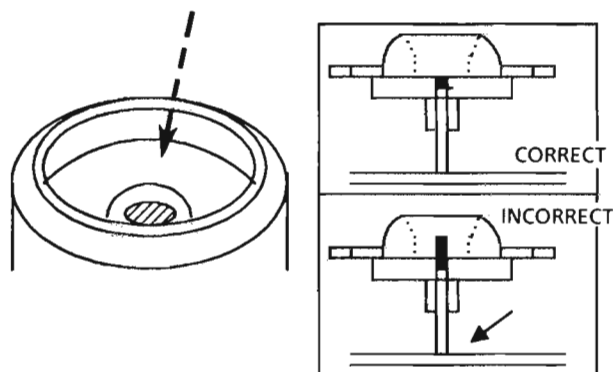

Fig. 53
- (34)** After inserting the turntable, bond the motor shaft and turntable together (at the section marked by an arrow in fig 53 on the left below).
Be extremely careful not to allow bonding agent to adhere to the motor bearing (the section marked by an arrow in fig. 53 on the right).